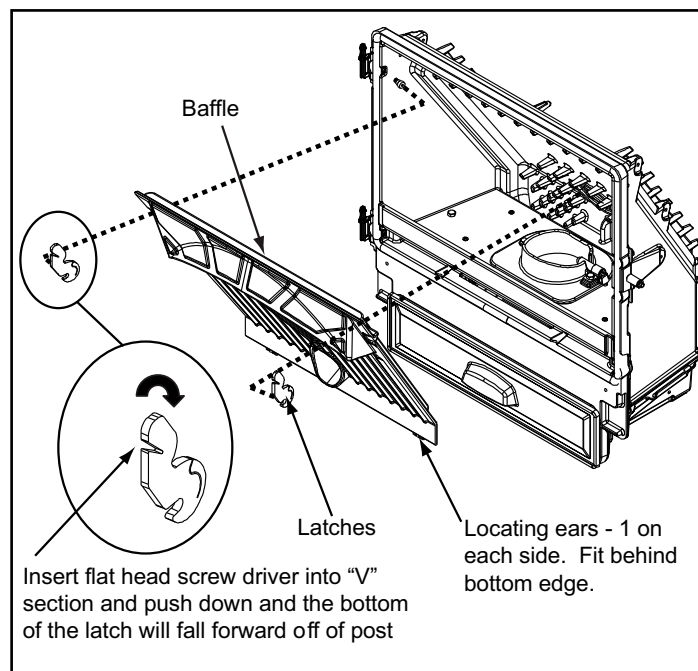

Figure 36.2
- d. Remove baffle by placing a flat head screw driver into the slot of the latches located in the upper corners and push down. The bottom of the latch will fall forward off of the post. Lift the baffle up and then out toward you. **Figure 36.2.**